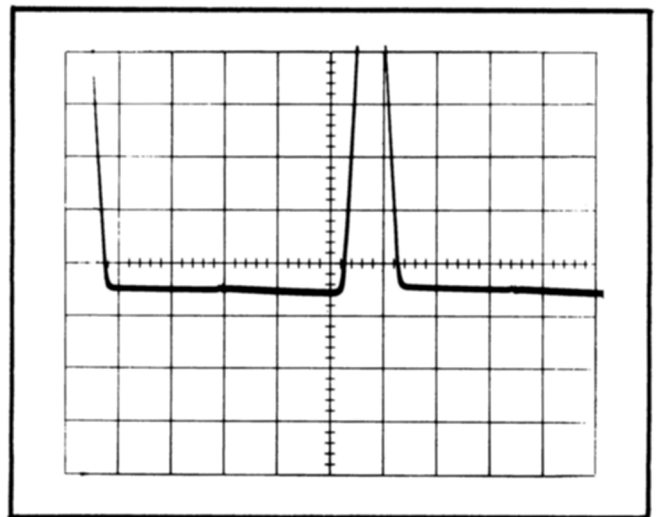

Fig. 2-5. Test oscilloscope waveforms when horizontal limit centering is properly adjusted.
g. CHECK—The base line of both displayed waveforms should be at the same DC level within 0.2 division (see Fig. 2-5).